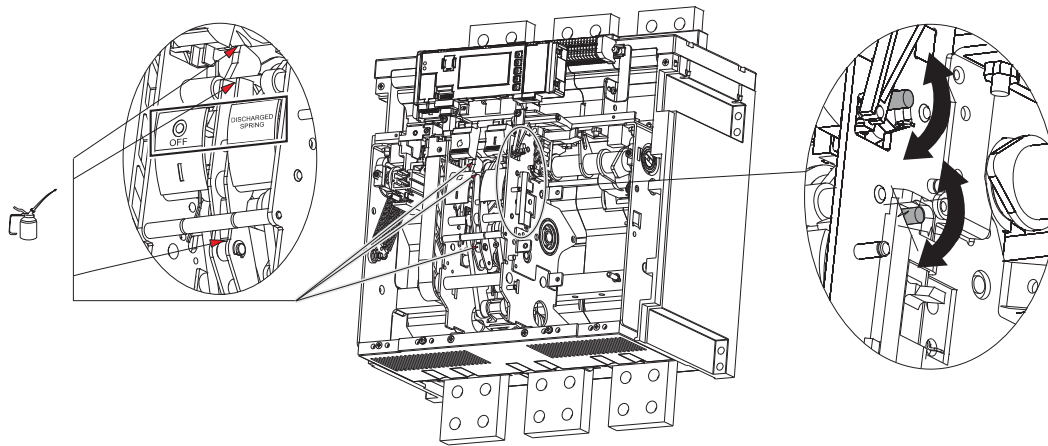

Fig. 22
- Lubricate the opening and closing latches and the shafts in the points indicated in figure 22.